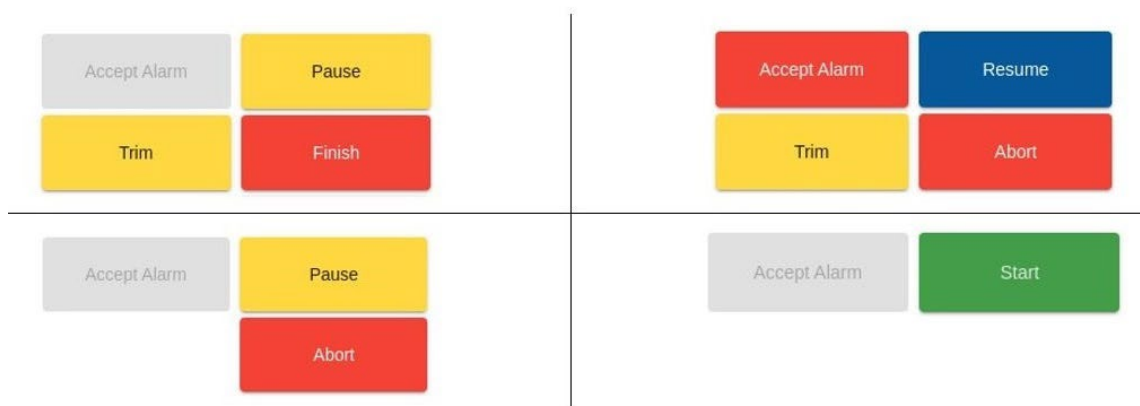

Figure 7: Mix cycle control buttons
21. Main control buttons for controlling the mix cycle. Start, Pause, Resume, Abort, Trim and Accept Alarm. (See Figure 7)